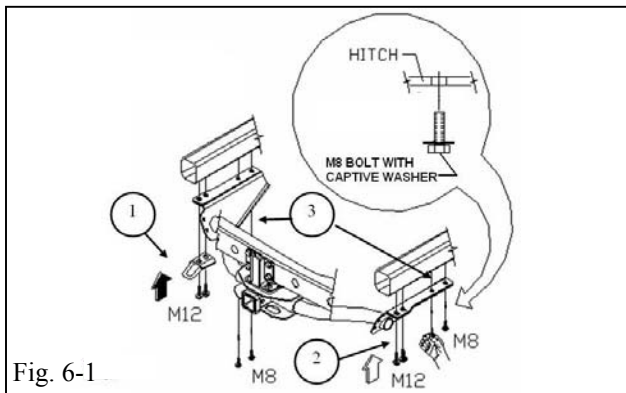

Fig. 6-1
- Reinstall tie-down bracket to hitch using two (2) M12 x 1.25x35 black bolts in driver side rear most frame locations. (Fig. 6-1, Step 1)
- Secure hitch to frame using two (2) M12 x 1.25x35 black bolts in passenger side rear most frame locations. (Fig. 6-1, Step 2)
- Hand start four (4) M8 x 1.25 x 25 black bolts in forward most frame locations. (Fig. 6-1, Step 3)